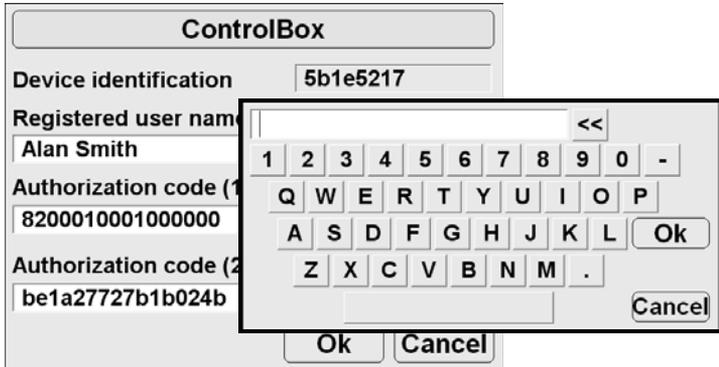

Figure 1-3. Enter New Authorization Codes
- From the **ControlBox** dialog box, record the *Device identification* number to give to your Topcon representative (Figure 1-3 on page 1-3). Contact your Topcon representative to purchase new authorization codes for the desired application.
- When you have received the new authorization codes, enter the codes into the **ControlBox** dialog box using the alpha-numeric keyboard (Figure 1-3).